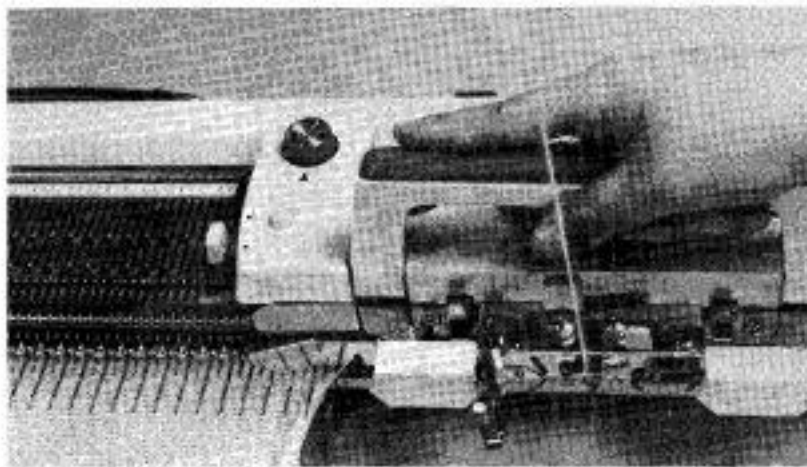

Fig. 131
The above operations are to bring forward into Position (E) every alternate needle. Now, with carriage on right, flick into action the feeder and move the carriage across the needles to the left. (Fig. 131)